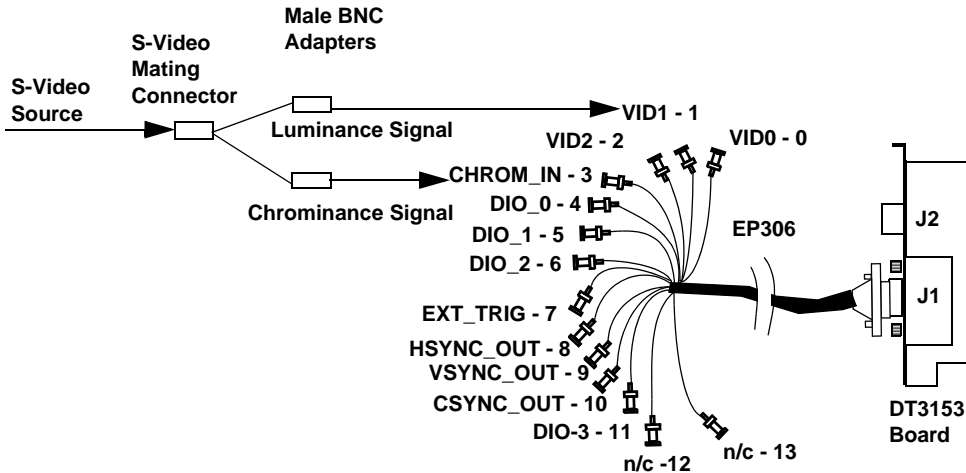

Figure 5: Connect S-Video Signals to a DT3153 Board
2. Attach a male BNC adapter to the luminance signal and a male BNC adapter to the chrominance signal from the S-video mating connector. Refer to Figure 5.